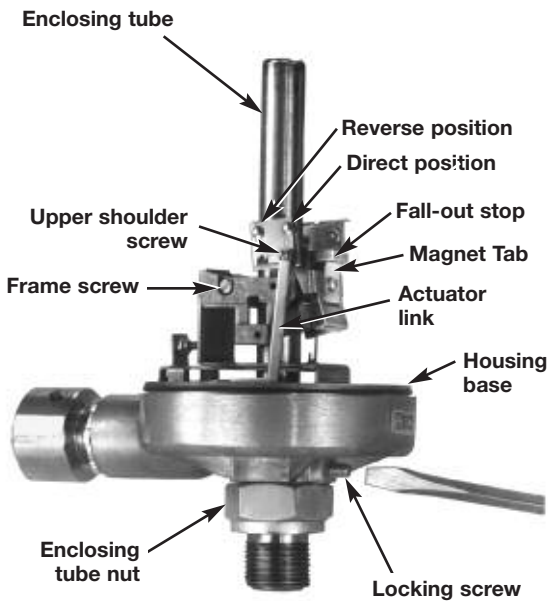

Figure 3
1. The action can be reversed by first removing the upper shoulder screw from the actuator link and moving it from the direct (D) position to the reverse (R); refer to Figure 3.
1. Loosen both the special locking screw above the enclosing tube nut and the frame screw. Refer to Figure 3.
2. Loosen both the special locking screw, above the enclosing tube nut, and the frame screw approximately 3 to 4 turns. Refer to Figure 3.
- A. Hold the magnet tab against the fall out stop. Refer to Figure 3.